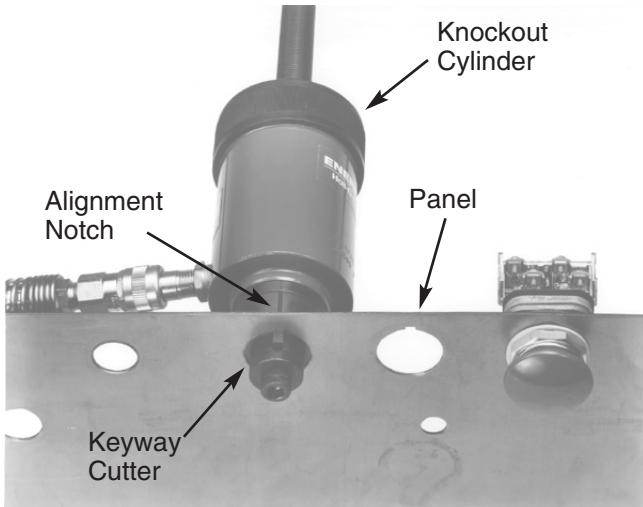

Figure 1
4. Insert the cutter tool into the $1\frac{1}{32}$ " panel opening until the pilot shoulder fits into the hole and the die is against the panel (Figure 1).